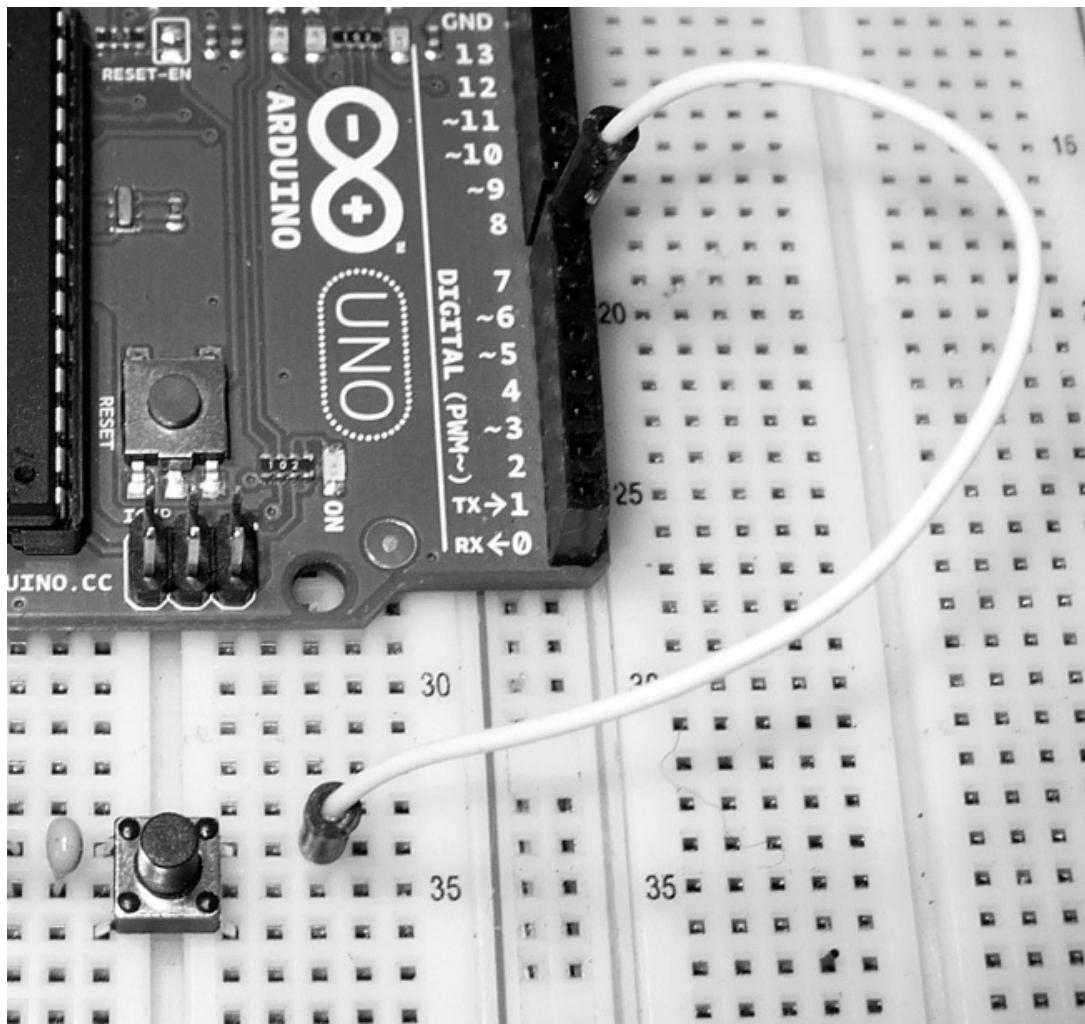

Figure 4-23. Connecting the button to the digital input
4. Run a wire from Arduino digital pin 7 to the breadboard near the top-right corner of the button, as shown in Figure 4-23.